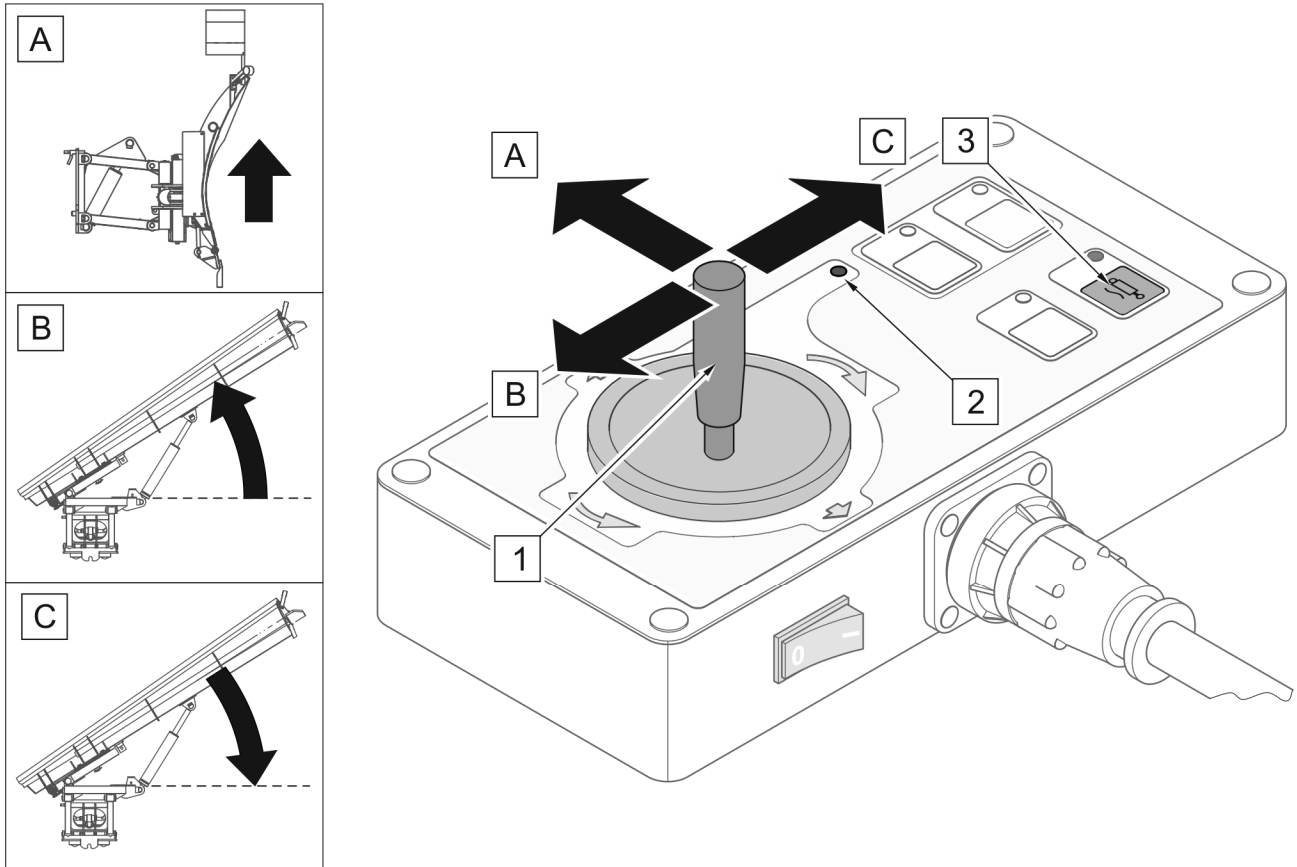

FIG. 4.12 Mouldboard control (applies to the plough with Power-Pack)
The snowplough's mouldboard is controlled using joystick. Individual functions of joystick (1) are shown in (FIG. 4.12). When the joystick is shifted to position (A,B,C), the indicator light (2) lights up for the period of operation of the Power-Pack electro-hydraulic power supply. The snowplough's mouldboard can be lowered only by switching on the floating function by means of switch (3).